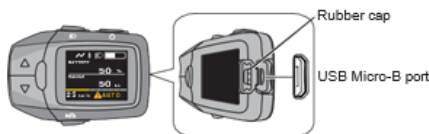

Fig. 1
- 1) Open the cover of the USB Micro-B port on the side display of the console. (Fig. 1)